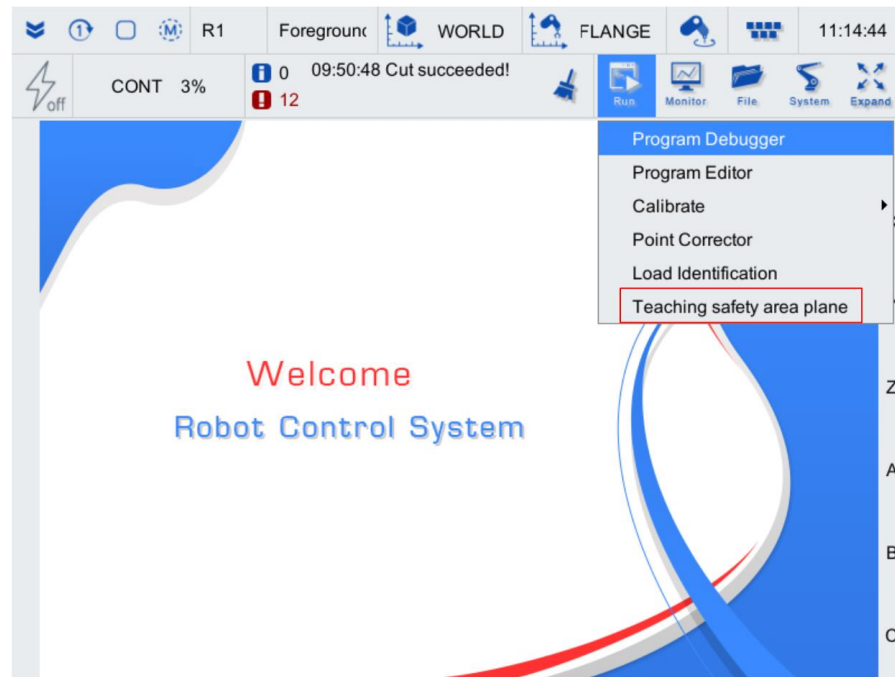

Figure 6-13 Teach pendant main interface
- Step8. Click [Run/Teaching safety area plane] on the main interface of the teach pendant (as shown in Figure 6-13), and the robot will play back the last drag trajectory.